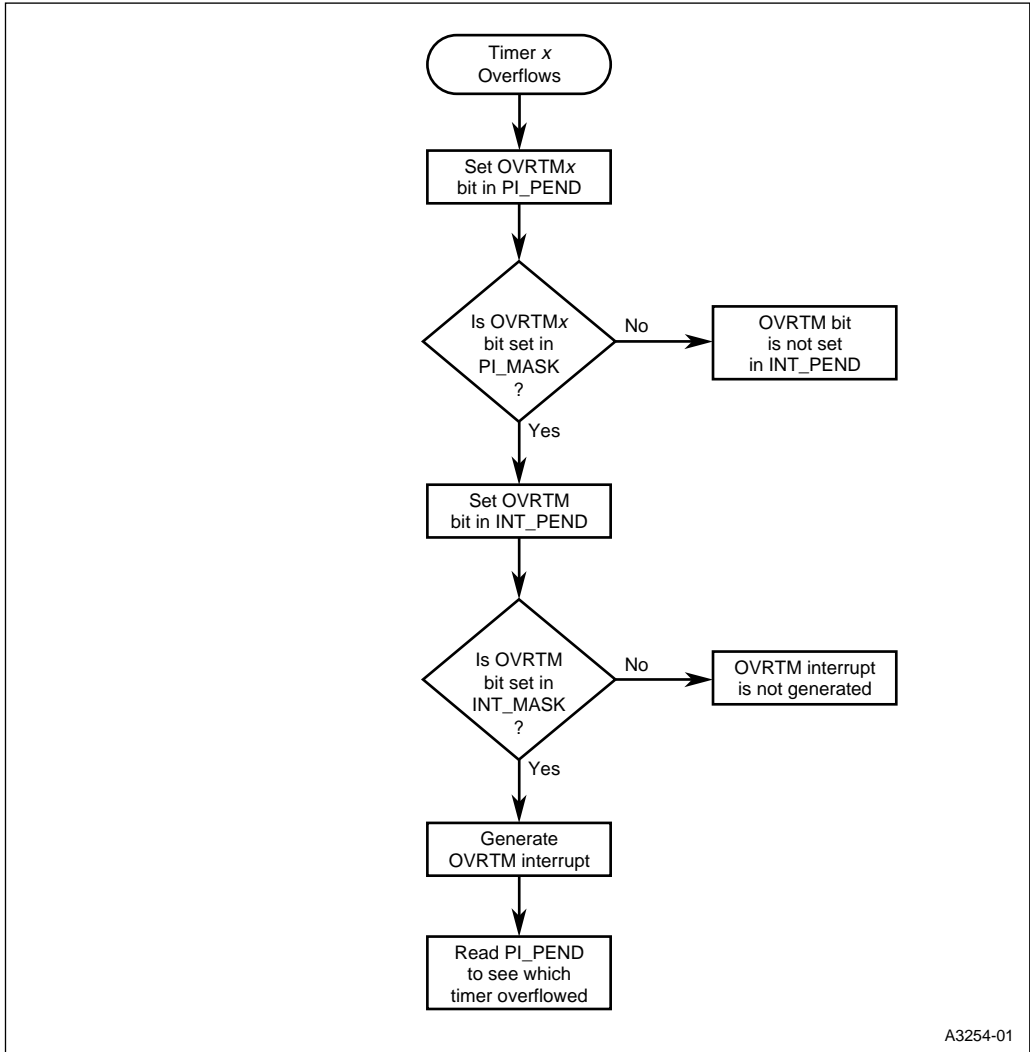

Figure 5-3. Flow Diagram for the OVRM Interrupt
The PI (MD), OVRTM (M_x), and SPI (MH) interrupts have multiple sources (see Table 5-3 on page 5-5). An individual source will generate the interrupt only if software enables both the interrupt source and multiplexed interrupt. To enable the multiplexed interrupt, set the appropriate bit in the interrupt mask register (Figures 5-7 and 5-8). To enable an interrupt source, set the appropriate bit in the PI_MASK register (Figure 5-9 on page 5-17). Figure 5-3 shows the flow for the timer interrupt.